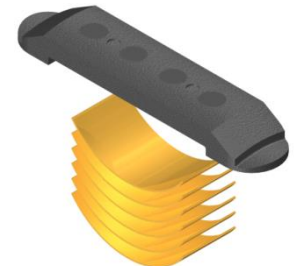

Fig. 7
**NOTE10:** Uses six (6ea) drag block springs per drag block (Fig. 7).